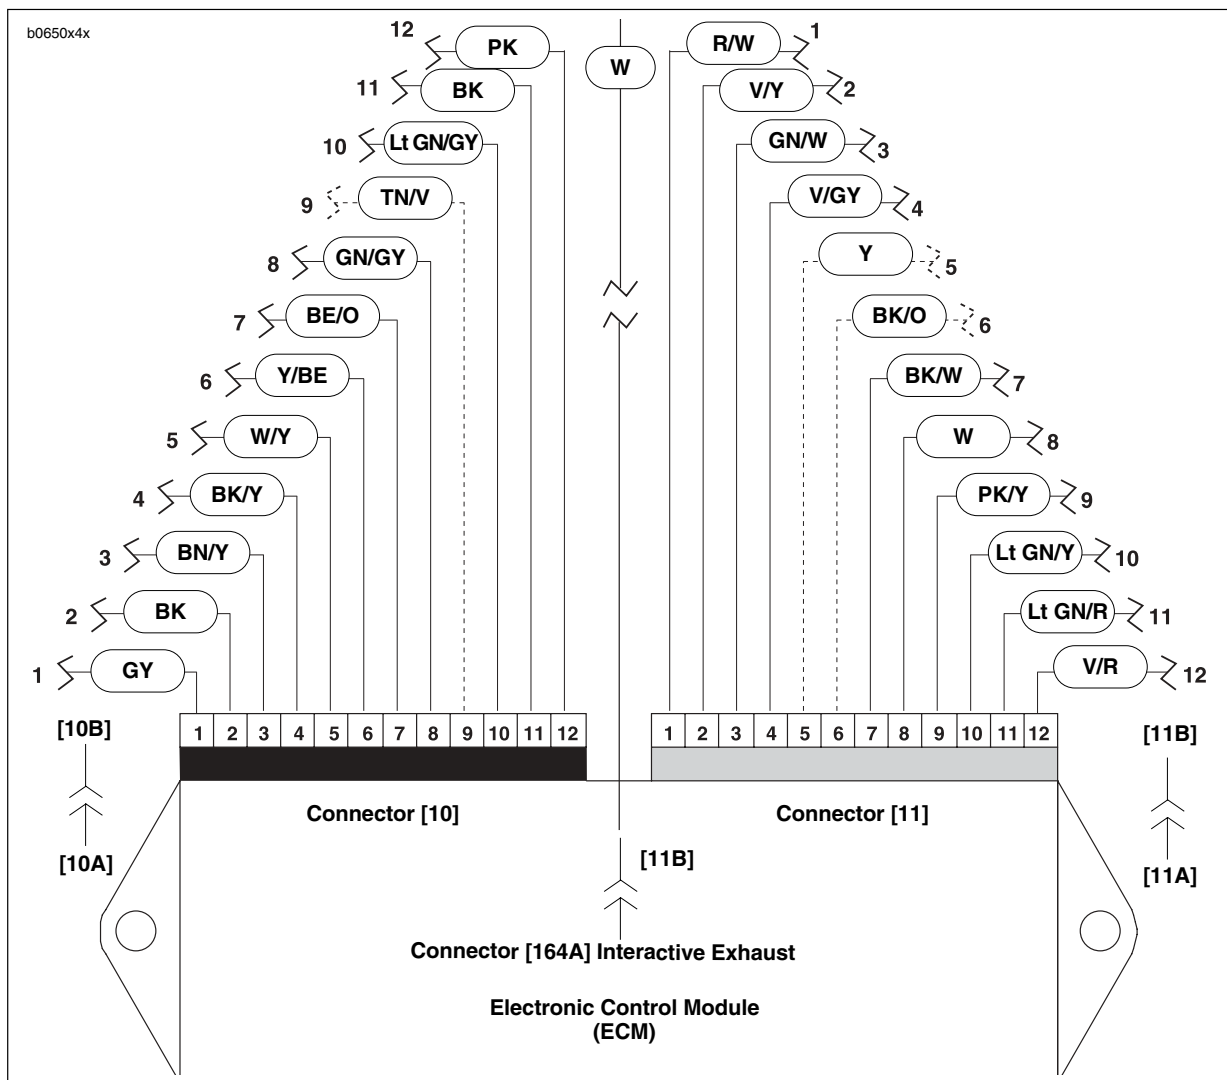

Figure 4-66. ECM Wiring (Interactive Muffler Connector [164] XB12 Models Only)
6. See Figure 4-66. Remove connector terminal pins (7). See B.2 DEUTSCH ELECTRICAL CONNECTORS.
6. See Figure 4-66. Attach connector [3] (2).
8. Tighten timer plate studs (4) to 15-30 **in-lbs** (2-3 Nm).
9. Install inner cover (20) using screws (3). Tighten to 12-20 **in-lbs** (1-2 Nm).